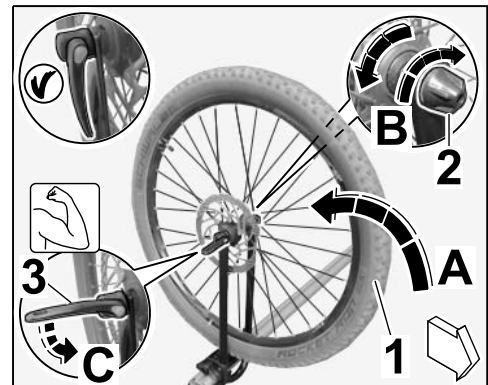

Figure 29
6.2.4 Remove front wheel from the bicycle and insert it into the fork of the front wheel holder (⇒ *Figure 29-A-*).
6.2.5 Close the quick-clamping lock for the front wheel (⇒ *Figure 29-B and C-*).